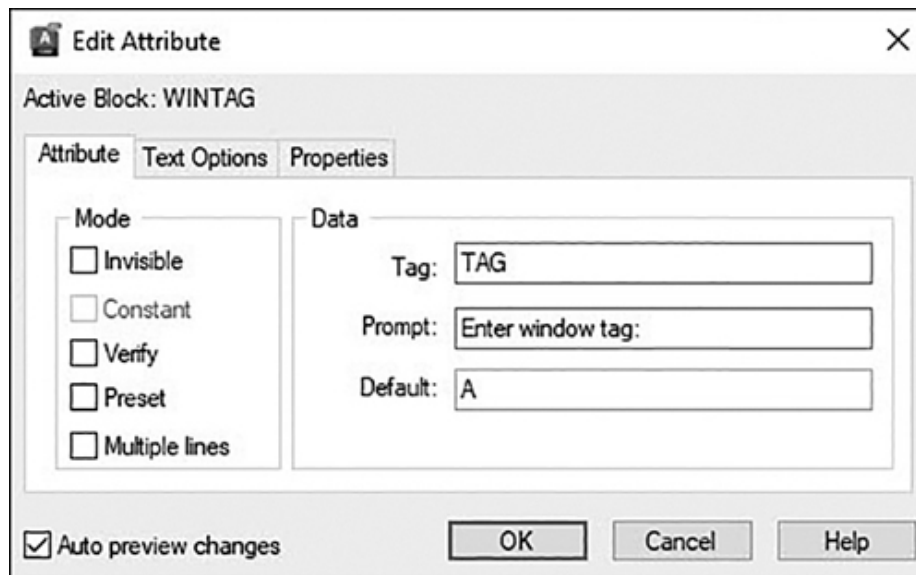

Figure 16-32
- The **Edit...** button displays the **Edit Attribute** dialog box shown in Figure 16-32.